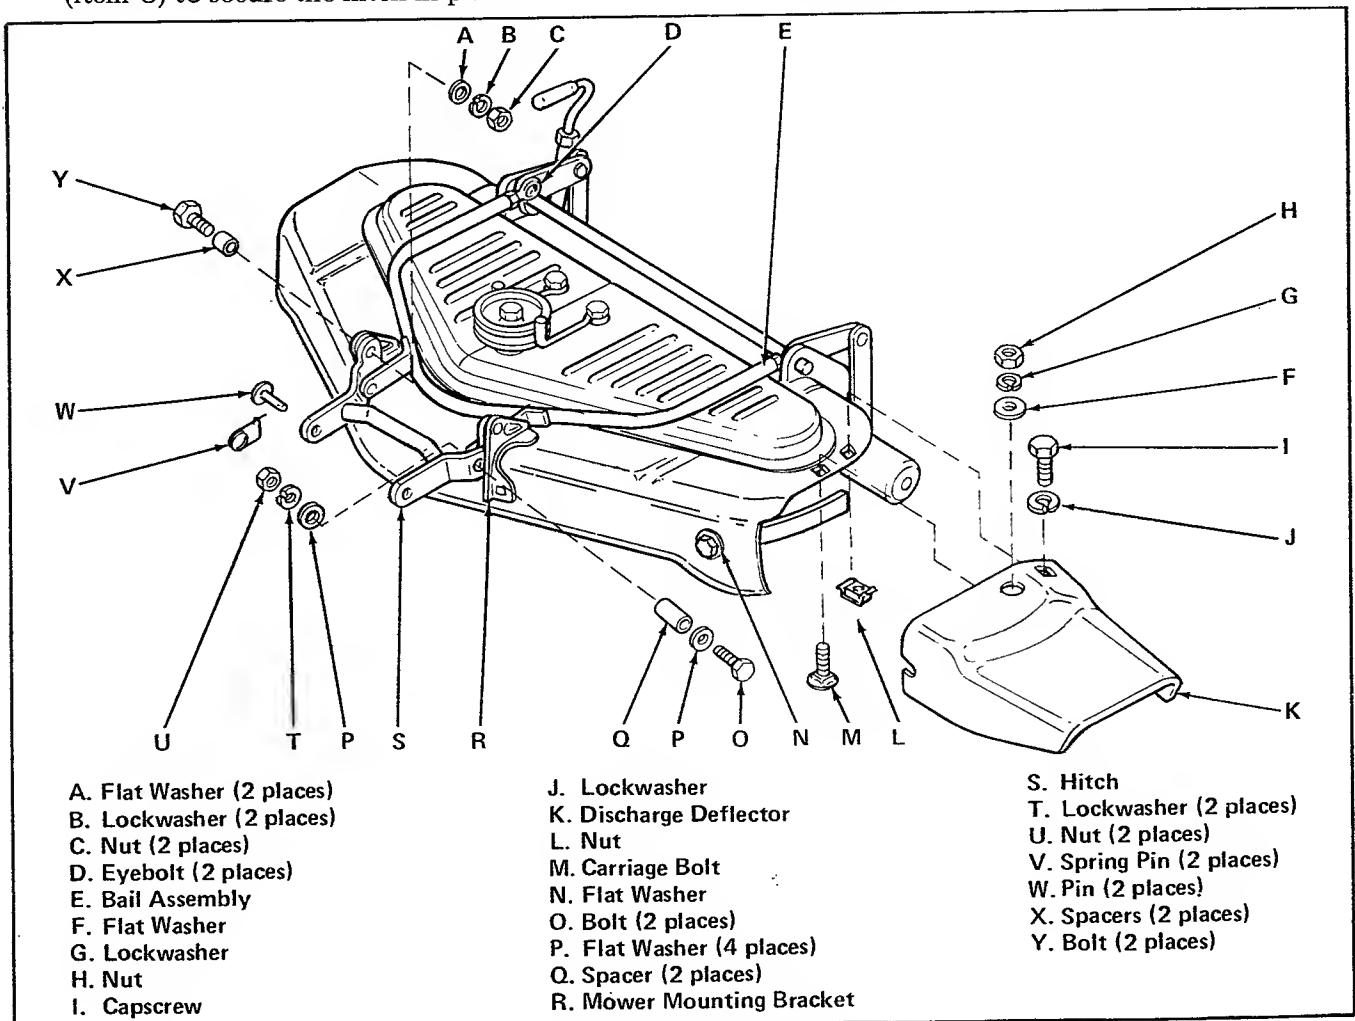

Figure 21. Assembly of 36" Mower
1. Align upper holes of hitch (item S, figure 21) with holes of mower mounting bracket (item R).